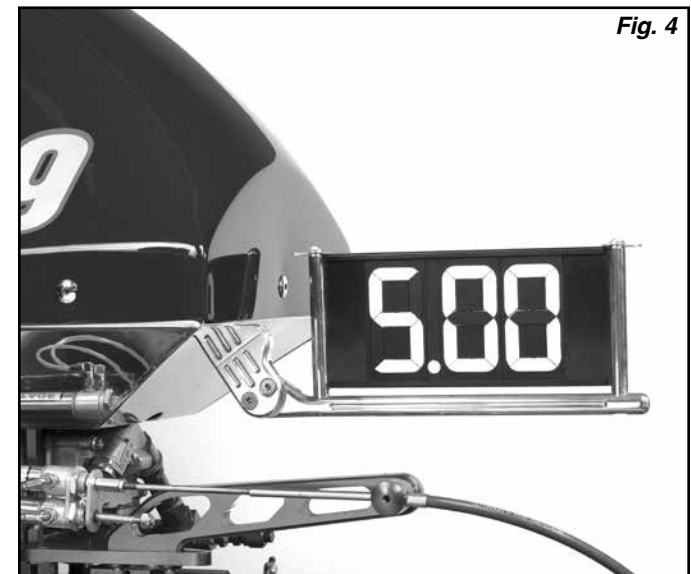

Fig. 4
**Step 2:** Using a 5/32" Allen wrench, loosen the two 1/4"-20 x 5/8" flat head bolts on the side of the universal mount bracket. Set the Dial-In Board arm to the desired angle and tighten the flat head bolts. See Fig. 4 for a finished installation.